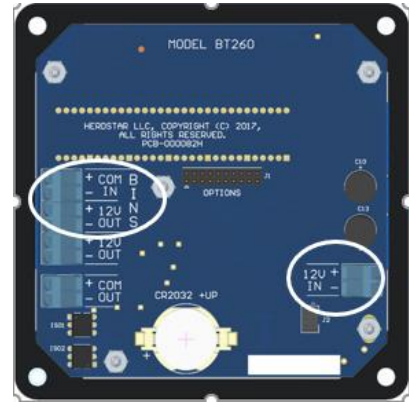

Figure 6
2. Insert the wires into the terminal block where RED is +12V OUT, GREEN is +COM IN, WHITE is -COM IN and BLACK is -12V OUT. (Figure 6)